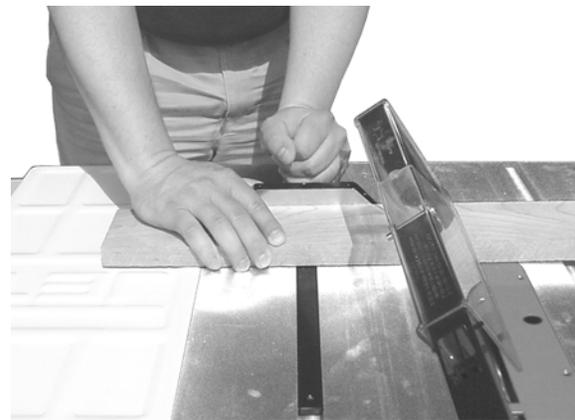

Figure 44
**Bevel Cut** – A bevel cut is a special type of operation where the saw blade is tilted at an angle less than 90 degrees to the table top (Figure 44). Operations are performed in the same manner as ripping or crosscutting except the fence or miter gauge should be used on the right-hand side of the saw blade to provide added safety in avoiding a binding action between the saw blade and the table top. When beveling with the miter gauge, the workpiece must be held firmly to prevent creeping.